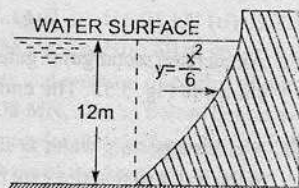

Fig. 3.61
22. Find the magnitude and direction of the resultant water pressure acting on a curved face of a dam which is shaped according to the relation $y = \frac{x^2}{6}$ as shown in Fig. 3.61. The height of water retained by the dam is 12 m. Take the width of dam as unity. [Ans. 970.74 kN , $\theta = 43^\circ 19'$]